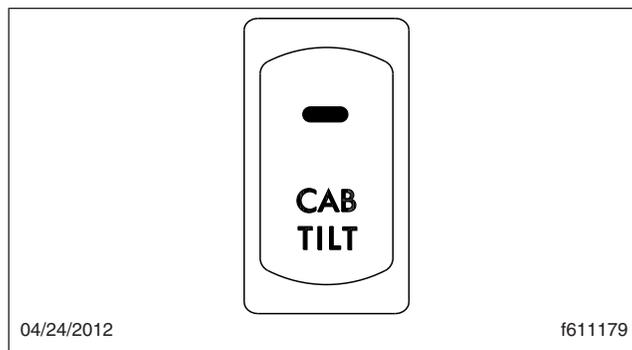

Fig. 26, Cab Tilt Switch
2. Secure all loose articles in the cab and bunk, then activate the tilt system power switch on the dash. See Fig. 26.